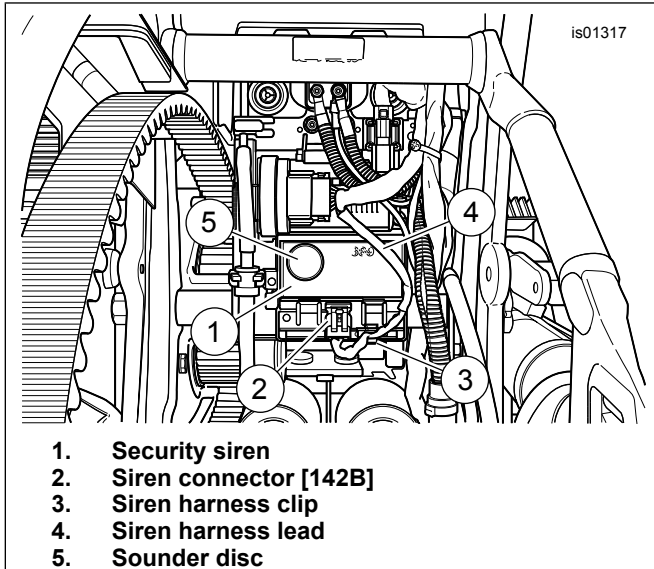

Figure 17. Siren Mounting (Softtail Models EXCEPT FXCW/C)
- See Figure 17. Orient the siren (1) as shown, with the harness connector (2) toward the bottom and the sounder disc (5) facing out. Carefully snap the siren into the electrical panel.
- Insert the siren harness lead (4) into the harness clip (3) to keep the harness clear of other components.